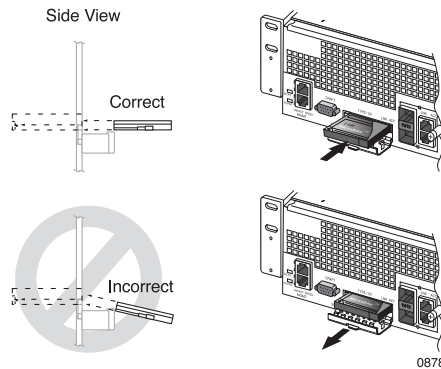

Figure 24 Installing a CF Card
3. Hold the CF card to be installed so that its pin-hole side faces the slot in the front panel and horizontally align it as close to the bottom edge of the slot as possible and perpendicular to it; see Figure 24.